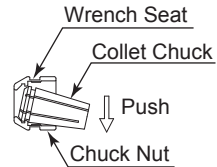

Fig. 5
- ② The collet chuck and chuck nut are secured by a groove in the collet chuck and a flange in the chuck nut. To remove the collet chuck hold the chuck nut in one hand and push diagonally down on the collet chuck. The collet chuck should be released (Fig. 5).
Press the collet chuck in the chuck nut by positioning the collet chuck in the chuck nut and pressing down on flat surface (Fig. 5).